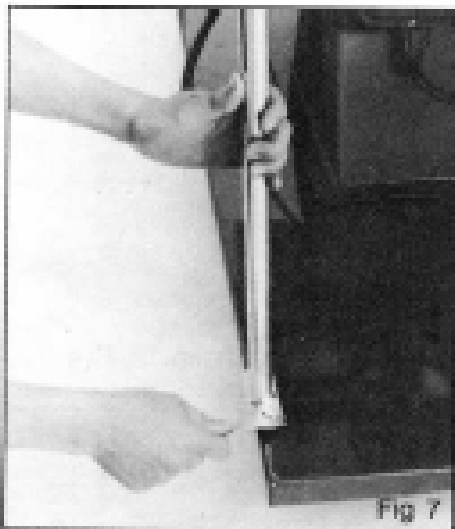

Fig 7
Now install the two collector supports(H) and the two support inserts(G) as shown in fig 7 and fig 8.